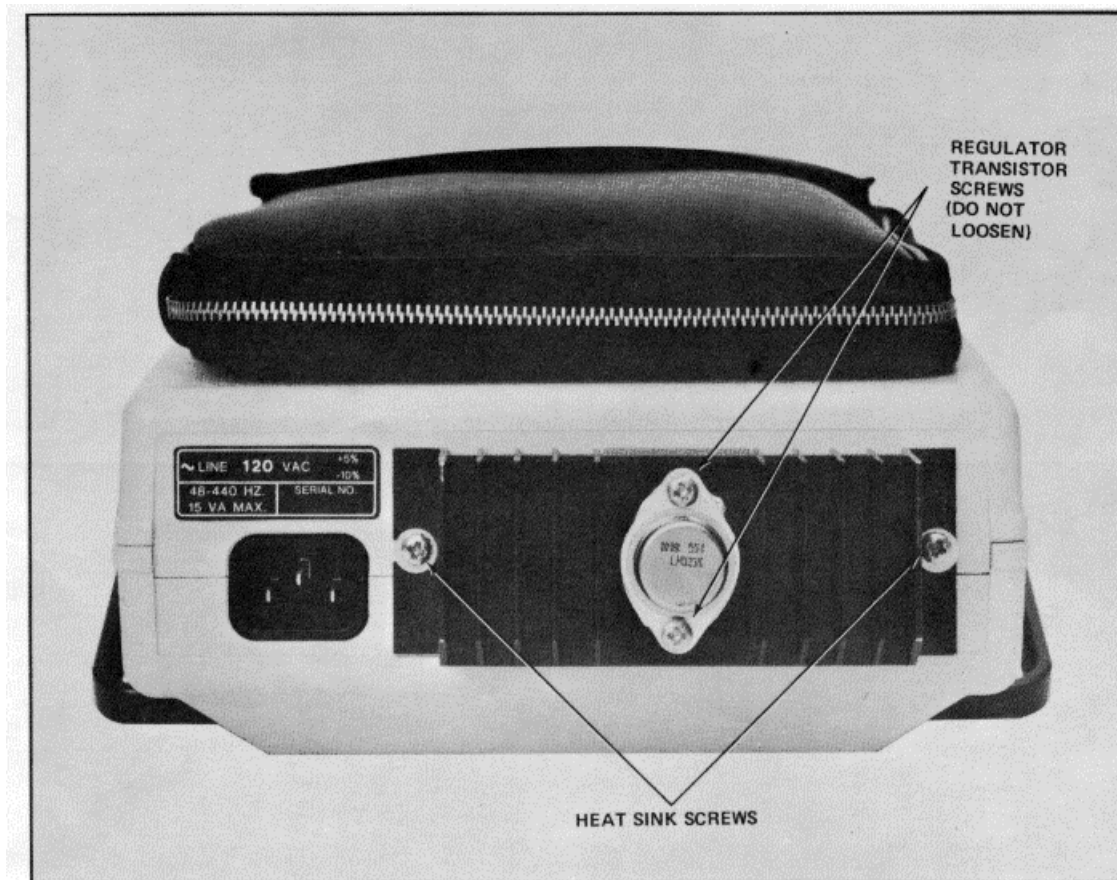

Figure 8-2. Heat Sink Screws Locations
3. On the back panel of the 5004A loosen the two screws at the ends of the heat sink three or four turns (*see Figure 8-2*)
DO NOT loosen the transistor retaining screws (see Figure 8-2).